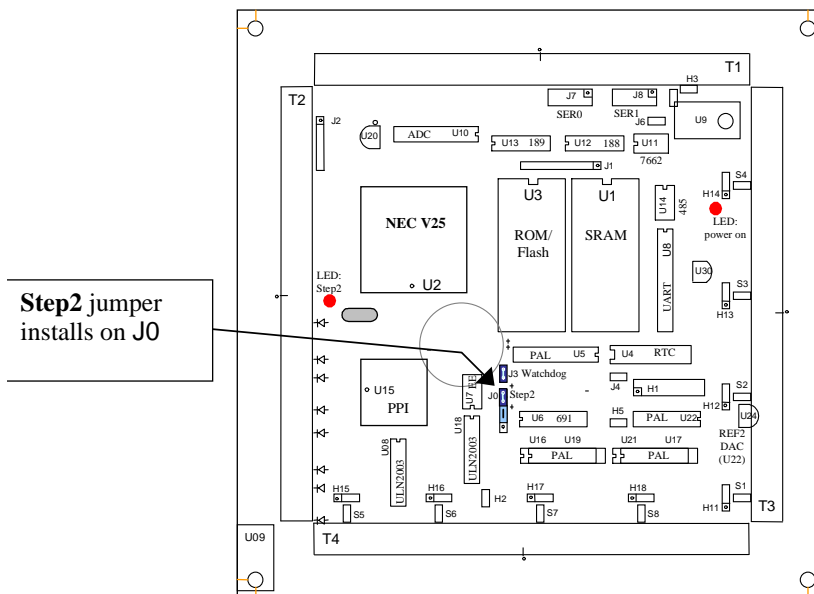

Figure 1.4 Location of Step 2 jumper on the DataWatch
- Set the jumper on J0 pins 1 and 2 on the DataWatch (Figure 1.4).